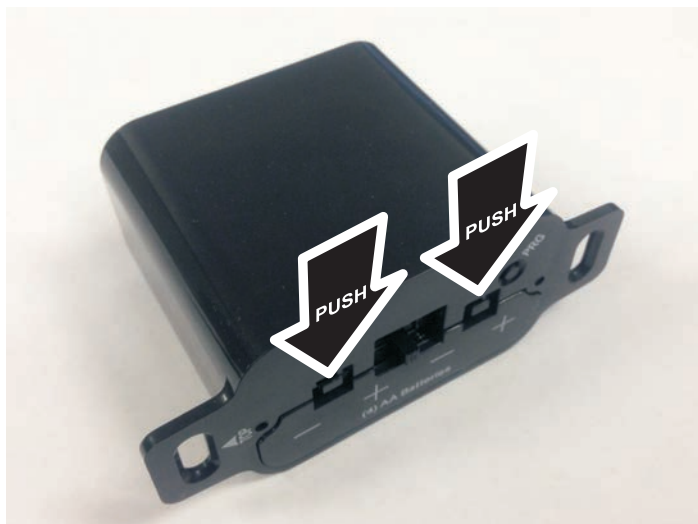
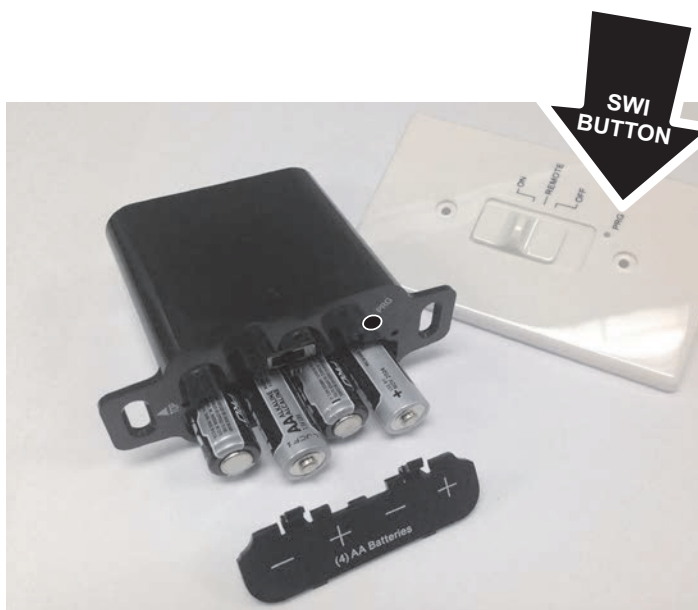

Figure 58
Figure 59
1. Remove the wall cover. Remove cover on the wall mounted battery back-up holder. **See Figure 58.** Install the four AA batteries into the wall mounted battery back-up holder then reinstall the cover. **See Figure 59.**
3. Set the wall remote slide switch to the "REMOTE" position. **See Figure 59.**
4. Press and release the SWI button on the wall control with a paper clip and the IFC module will beep three times to indicate the IFC module is ready to synchronize with the transmitter within ten seconds. **See Figure 59.**